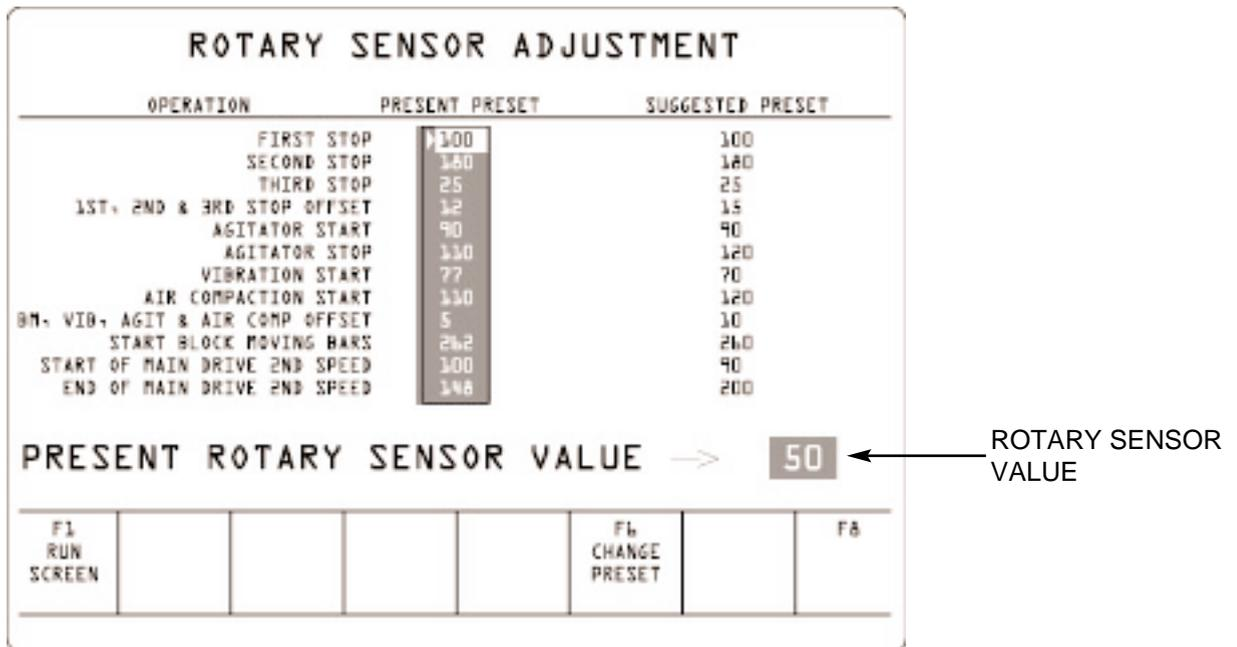
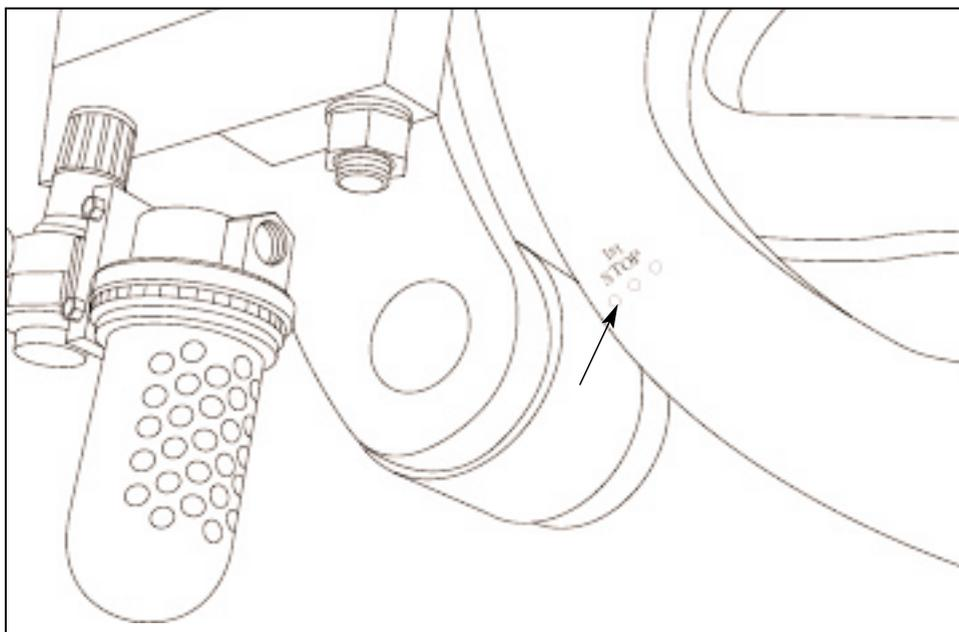

Figure 7.1 ROTARY SENSOR ADJUSTMENT SCREEN.
Figure 7.2 "FIRST STOP" (R.H. side of machine).
- 7.1 As an **initial condition**, cycle the machine to the “first stop” position “First stop” is obtained when the punch marks on the cam are in line with the roller.(see figure 7.2). In this position, the feedbox should be all the way forward and the roller should be centered on the first stop mark of the pallet receiver cam. At this point, the “Rotary sensor value” should be indicating 100° on the rotary sensor adjustment screen (see figure 7.1, for more details see section 10.4). To reach this screen, press “F2” from the main menu.